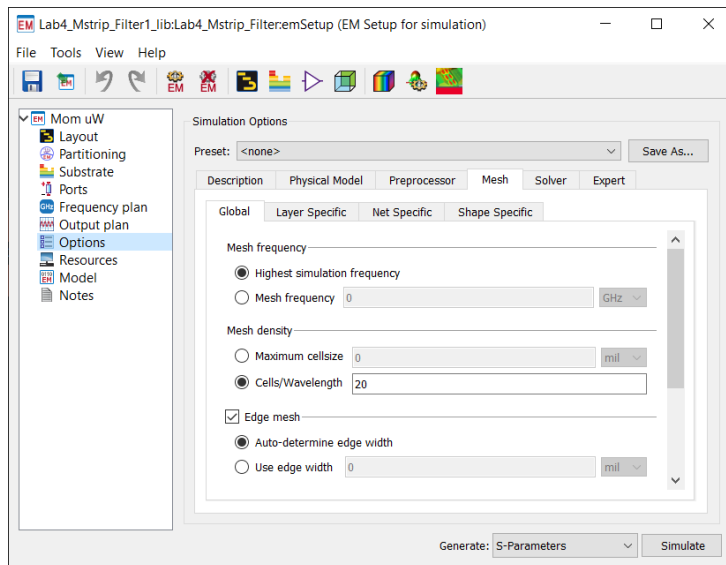

Figure 19. Adjust Simulation Options
8. In the Options section, go to the **Mesh** tab. Enable **Edge Mesh**, and select **Auto-determine edge width**. Leave the other fields as default. This is shown in Figure 19.